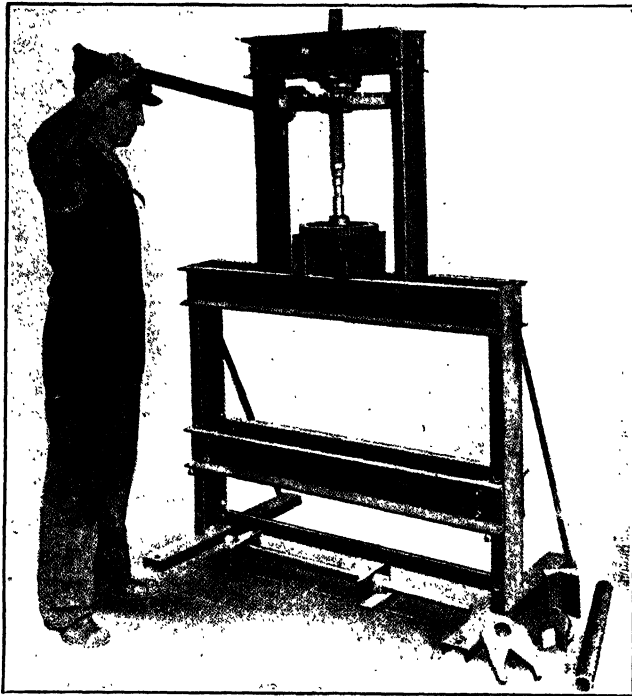

Fig. 59. Arbor Press for Automobile Work
There is now on the market a universal press especially adapted for automobile work, Fig. 59. This machine has a capacity of 22 tons and allows a 42-inch clearance for the work. It has two levers, one for high-speed work, geared 1000 to 1, and one for low-speed work, geared 2200 to 1. In the illustration, the mechanic is shown pressing off transmission gears with channel blocking, using the 2200 to 1 leverage. The other attachments furnished with the machine are shown on the floor.
**Uses of Arbor Press. V-Block.** For automobile work, a useful part of the arbor press equipment is a V-block, shown on the floor beside the machine in Fig. 59. This block is a receptacle for a great many different kinds of stock.